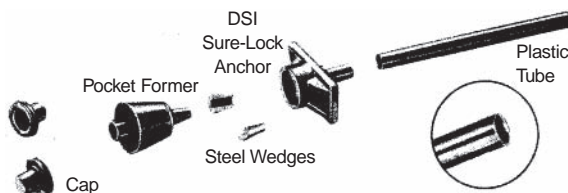

Figure 1.13 Single strand system
- Single strand tendons held by split conical wedges in individual anchorage castings (Figure 1.13).